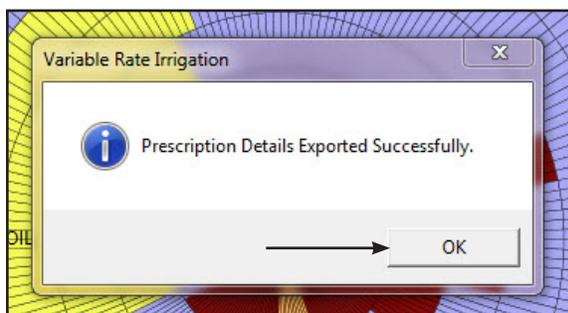

Figure 32-3 1. Successful Export
3. Click **OK**. (Refer to Figure 32-3.)